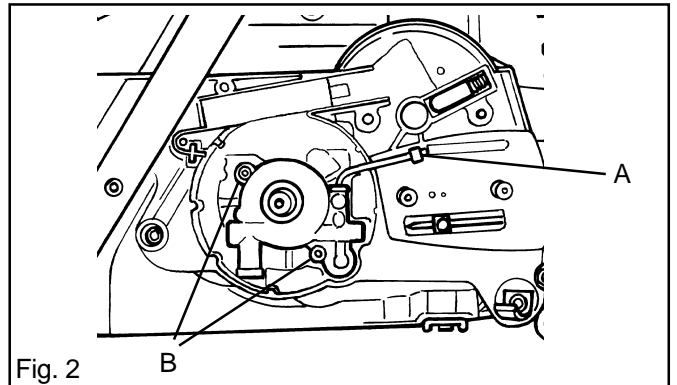

Fig. 2
5. Fit the washer and circlip (B). See fig. 2.
4. Use a screwdriver and lift the oil pipe forward at A. Lift up the pipe and pull it out of the oil pump. See fig. 2.
5. Remove the two bolts (B) and lift the oil pump from the crankcase. See fig. 2.